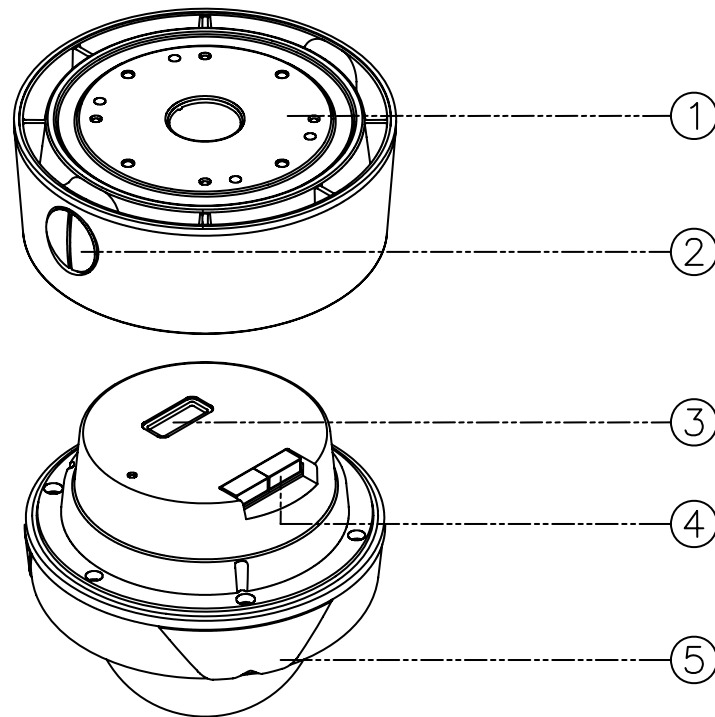
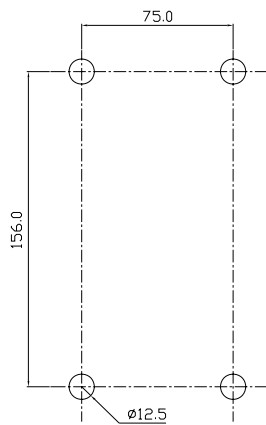

FIG.1
FIG.17
1. If you want to install the speed dome on the concrete wall, you need to make 12.5mm diameter 4 holes by drill like FIG. 1 ( Depth 37mm) (FIG.17)